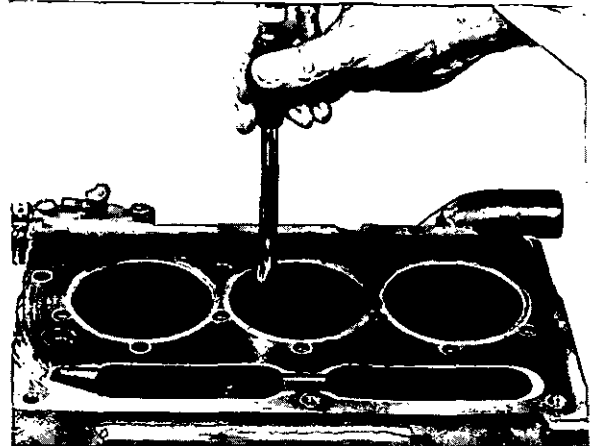

Fig. E.3
3. It is advisable to allow a settling period to elapse before checking fitted internal bore diameter of liner (Fig. E.3). The acceptable limit is 3.6015/3.6025 in (91,48/91,50 mm). Each new liner should be checked in three positions — top, centre and bottom; readings being taken transversely and parallel to centre line of cylinder block at each position.